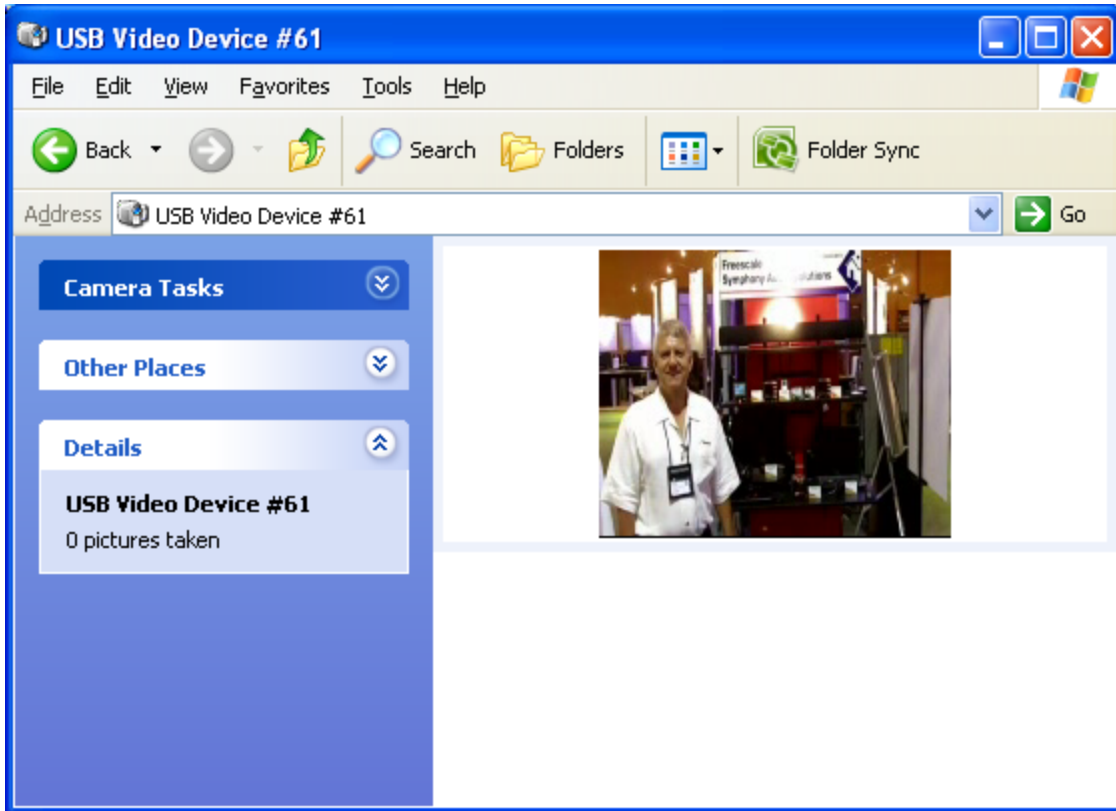

Figure L-11. Virtual camera
3. Double-click on Digital camera icon video is displayed as shown in Figure L-11.